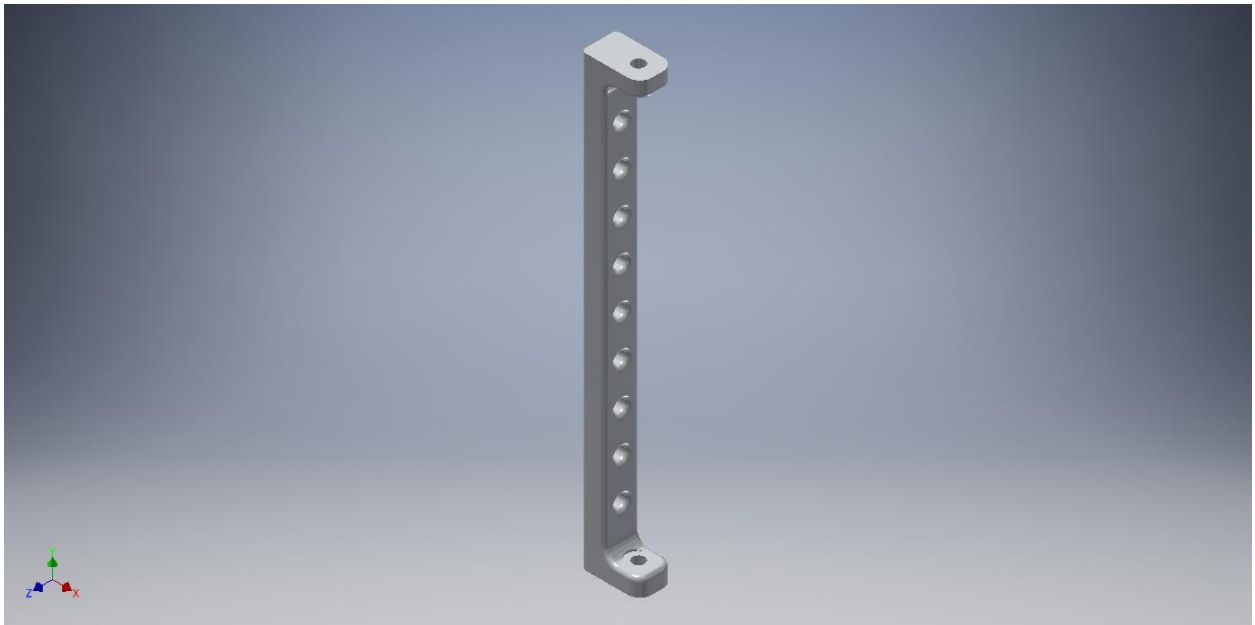

Figure 6 Lid Support
5. Gently press and rotate the rim into the tire. You want to end up with the rim almost fully into the tire with the bead still sticking out, as in Figure 6. If there are any imperfections leftover from Step 1, then it may be difficult to pass the tire over them.